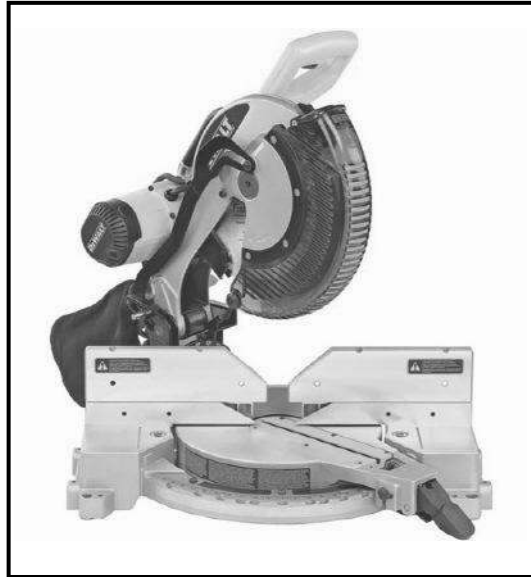

FIGURE 2.1
2.1 FIGURE 2.1 below shows a power tool used on a construction site.
- 2.1.1 Identify the power tool in FIGURE 2.1. (1)
- 2.1.3 Justify the use of the equipment in FIGURE 2.1 instead of a hand saw. (2)